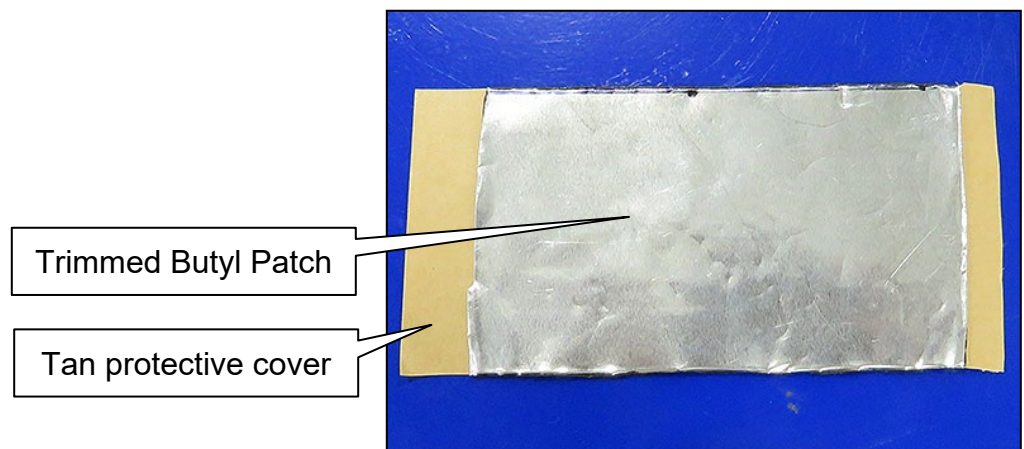
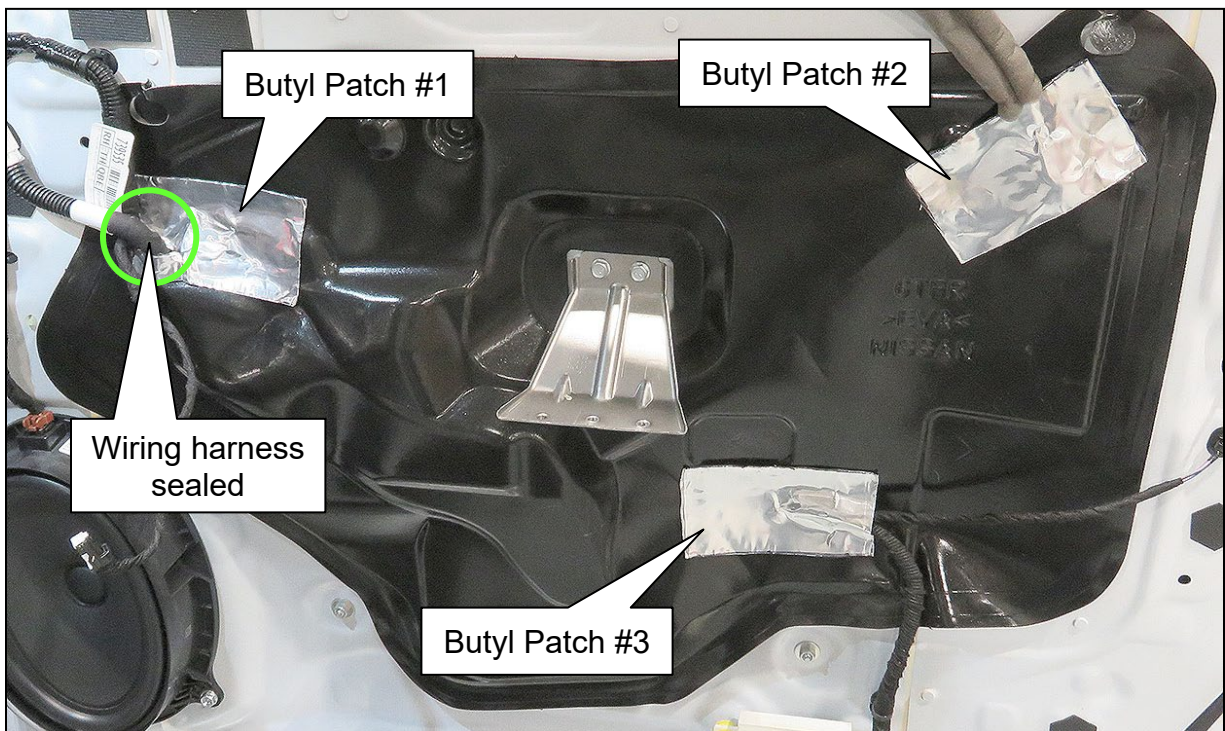

Figure 5
Figure 7
- Figure 5 shows one (1) of three (3) finished Butyl Patches.
- This patch will be Butyl Patch #1. Placement is shown in Figure 7.
6. Peel the tan protective cover (Figure 5 on page 3) away from the adhesive of Butyl Patch #1, and then carefully apply it to the door seal surface, as shown in Figure 7.
7. Peel the tan protective cover away from the adhesive of Butyl Patch #2, and then carefully apply it to the door seal surface, as shown in Figure 7.
8. Peel the tan protective cover away from the adhesive of Butyl Patch #3, and then carefully apply it to the door seal surface, as shown in Figure 7.
20. Peel the tan protective cover (Figure 5 on page 3) away from the adhesive of Butyl Patch #2, and then carefully apply it to the door seal surface, as shown in Figure 17.
33. Peel the tan protective cover (Figure 5 on page 3) away from the adhesive of Butyl Patch #1, and then carefully apply it to the door seal surface, as shown in Figure 26.